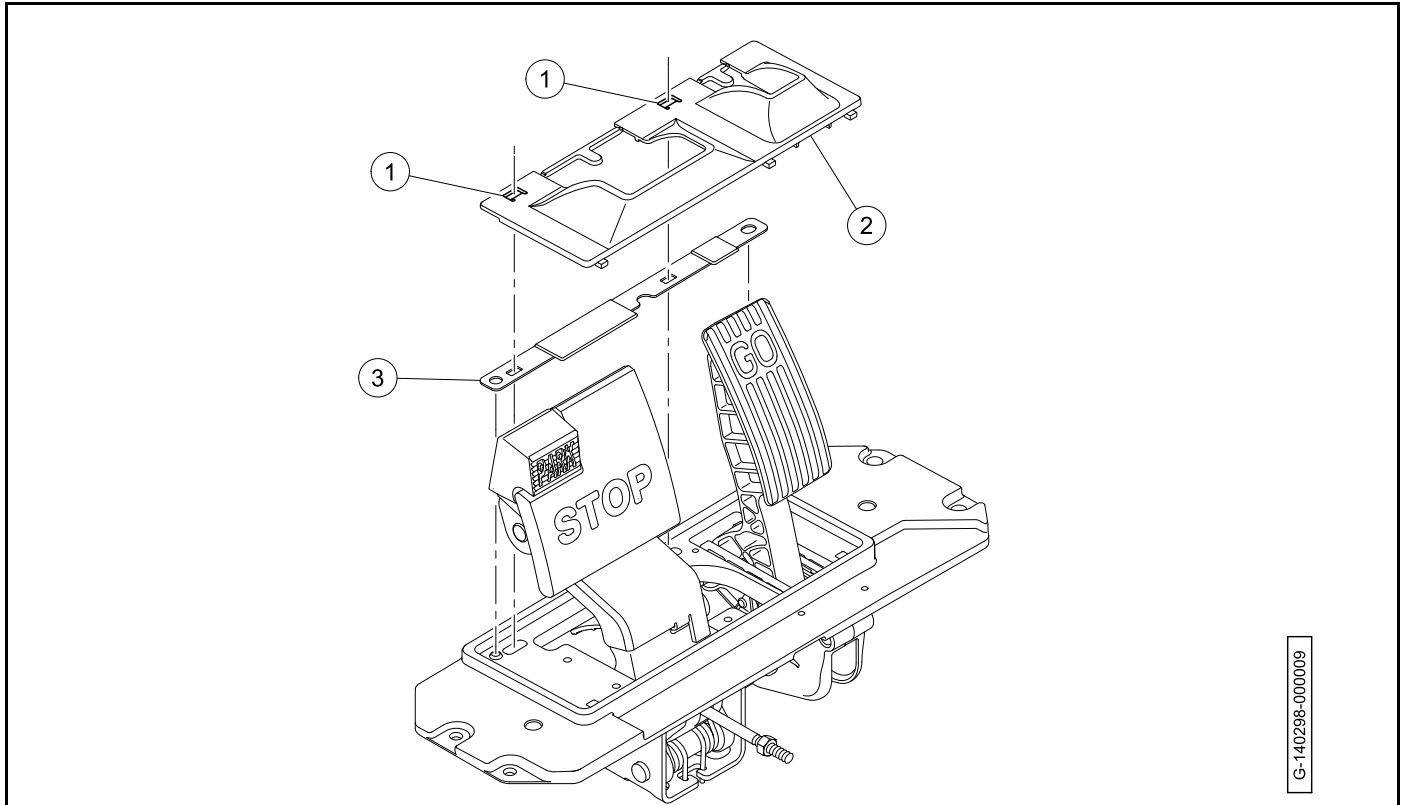

Figure 5-9 Debris Shields
1. Use a flat blade screw driver to release the tabs (1) and remove the primary debris shield (2) (**Figure 5-9**).
2. Remove the auxiliary debris shield (3).
1. Install the auxiliary debris shield (3) (**Figure 5-9**).
2. Install the primary debris shield (2).
3. Make sure that the tabs (1) are locked in position.